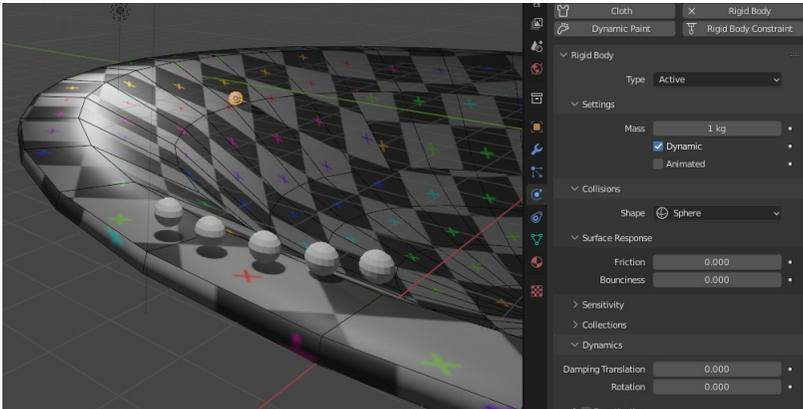

Figure 11-6 Simulating Balls and a Bowl
1. Start off by making a bowl from a sphere by inverting the top half of it. Start a new scene, delete the start cube then add a new sphere object. Scale the sphere 10 times then scale it down in the Z direction by a factor of 0.5. In Edit mode use orthographic and X-Ray view to select the vertices above half way, scale them down slightly then invert the curve by scaling them in the Z direction by a factor of -1.0. Move the selected vertices down and adjust and scale them, then by selecting edge rings at the top expand and flatten the lip so create a bowl as shown in Figure 11-6.
the bugs will slowly fall into the bowl and the heavier ball will be fired horizontally so it hits them. You can see the locations in Figure 11-6. Make sure that the balls are not intersecting the surface of the bowl otherwise they will experience a strong repulsive force in the first frame of the animation!